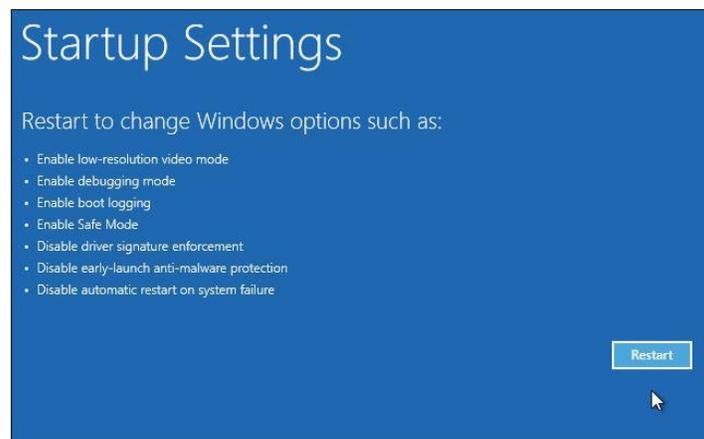

Figure 7 Startup Settings screen
6. Click the “Restart” button to restart your PC into the Startup Settings screen (Figure 7).